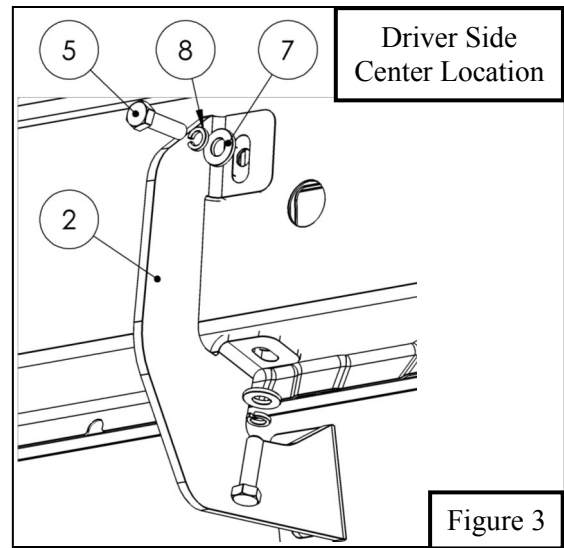

Figure 3
4. Locate (1) Center Mount Bracket (Item 2-3). Loosely secure Center Mount Bracket to the rocker panel using (2) M8 hex head bolt long, (2) M8 flat washer, and (2) M8 lock washer. See **Figure 3**. Refer to **Page 4** bracket orientation figures.